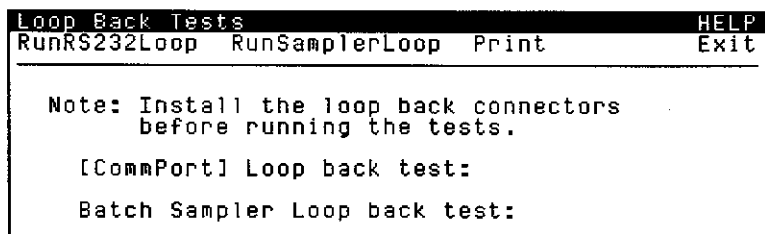

Figure 9-3. Loop Back Tests Window
2. With the Main window displayed, click on "DIAGNOSTICS" to display the Diagnostics window. Then click on <LoopBack>, to display the Loop Back Tests window, Figure 9-3.